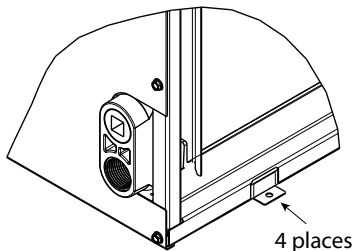

Fig. 12 – Horizontal Left Installation A221205
1. Unbend the 4 tabs at the right side of the casing (Fig. 12).